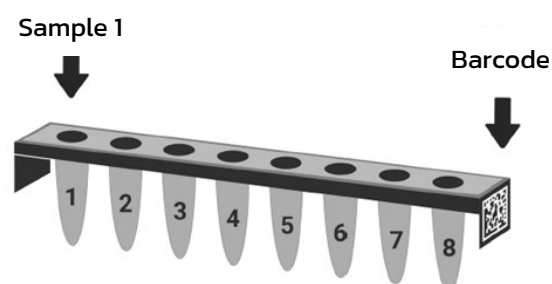

Figure 3. Required orientation of samples in the *Sample Input Strip*
**NOTE:** The samples must be placed in the *Magnis NGS Prep System* device as shown in Figure 3, with Sample 1 loaded in the well located farthest from the barcode.